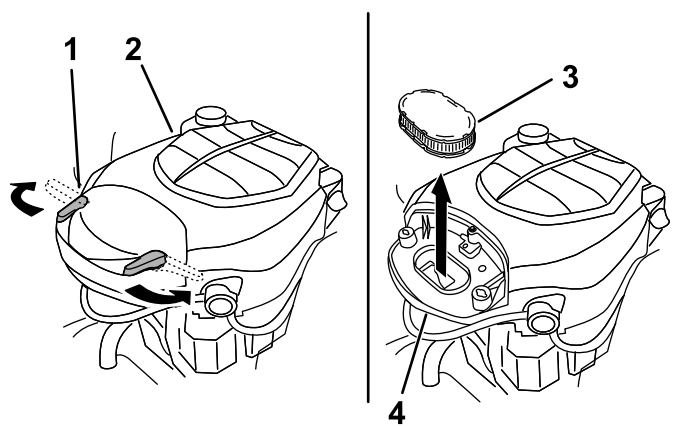

Figure 31
2. Remove the cover to access the air-cleaner element (Figure 31).
6. Install the cover and secure it with the latches (Figure 31).